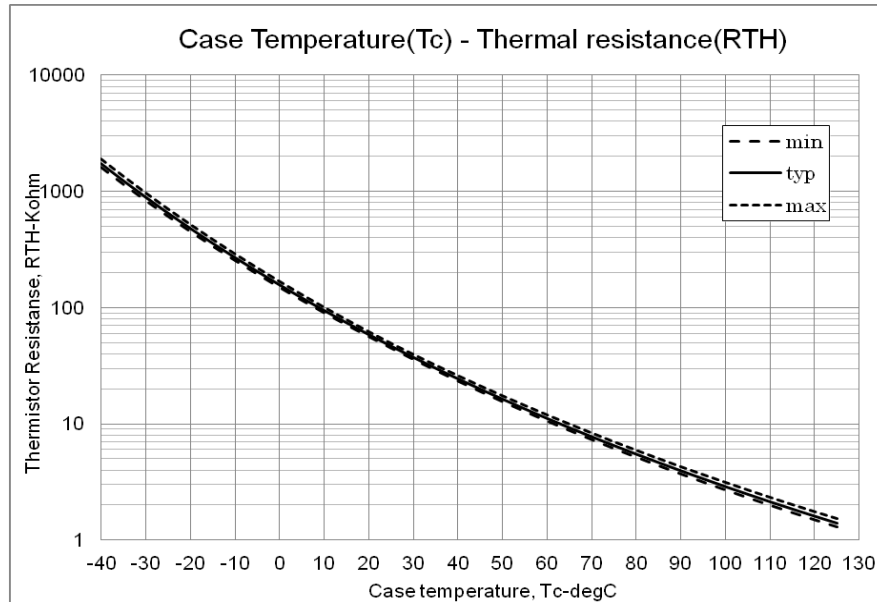
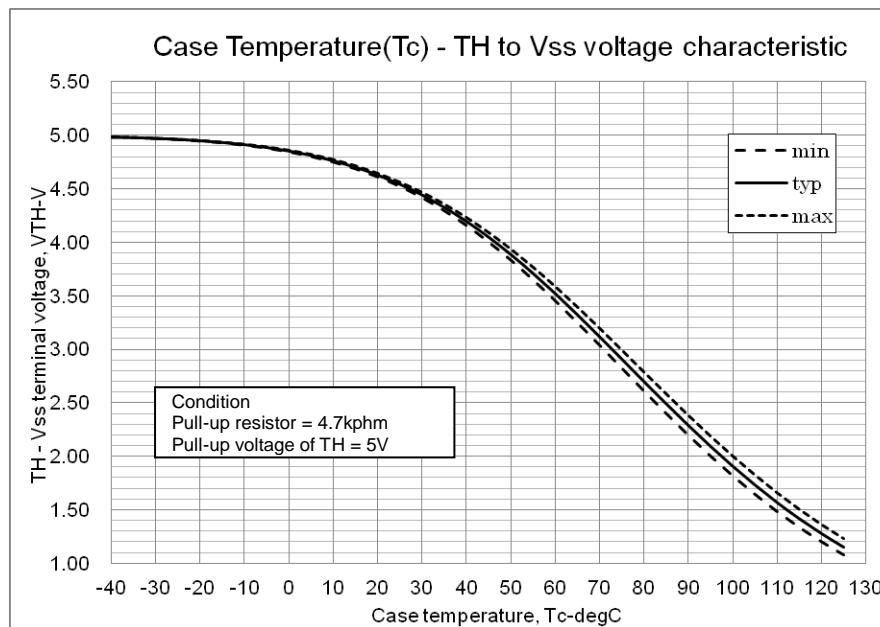

Fig.10 Variation of thermistor resistance with temperature
Fig.11 Variation of temperature sense voltage with thermistor temperature
4. Inside the H-IC, a thermistor used as the temperature monitor for internal substrate is connected between VSS terminal and TH terminal, therefore, an external pull up resistor connected between the TH terminal and an external power supply should be used. The temperature monitor example application is as follows, please refer the Fig.10, and Fig.11 below.